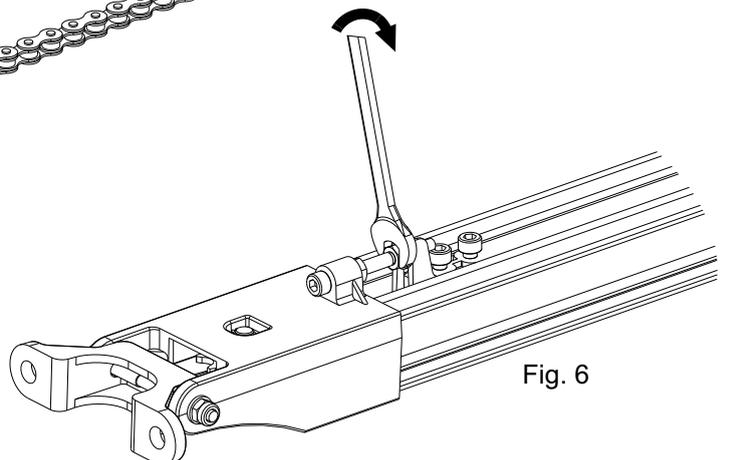

Fig. 6
- Slightly tighten the chain with a 10 key (Fig.6)